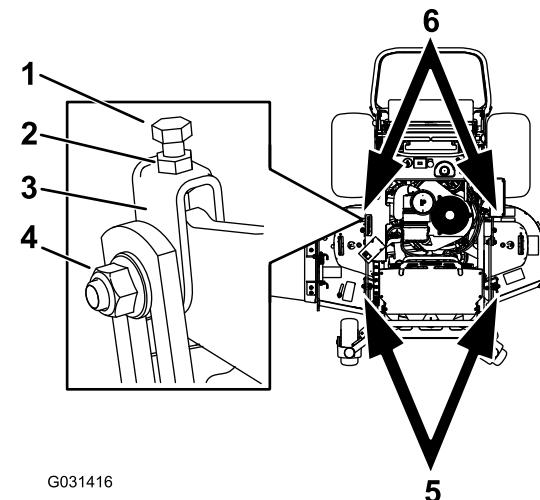

**Figure 83**
2. Position 1 blade front-to-rear. Measure at **A** and **B** locations from a level surface to the cutting edge of the blade tips (Figure 83).